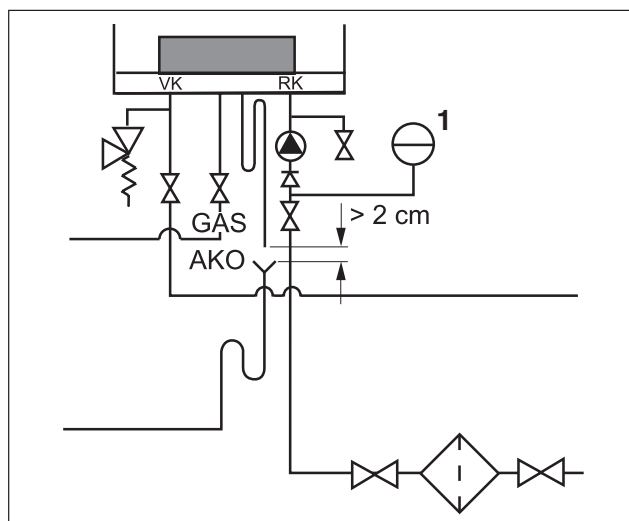

fig. 25 Connecting the expansion vessel in a single-boiler system
- Connect the expansion tank to the boiler return (CHR). If a non-return valve is available: connect the expansion vessel to the CH-side of the non return valve in the return circuit (fig. 25, **item 1**).